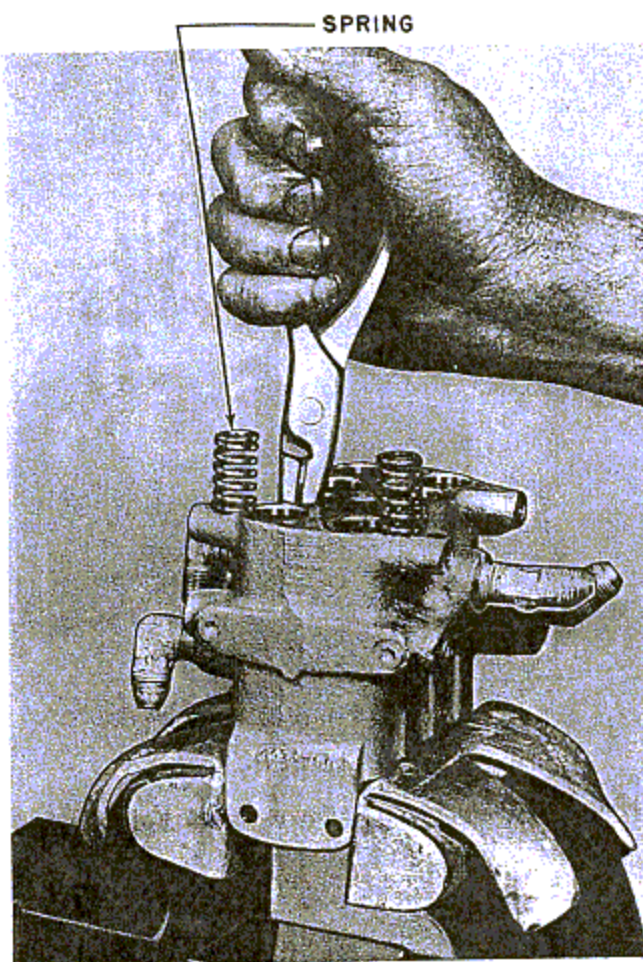

Figure 235—Removing Valve Springs
8. The valve springs may now be removed from the valve body with a light pair of pliers. (See figure 235.) Be very careful not to score the valve cylinder surface with the pliers or springs.